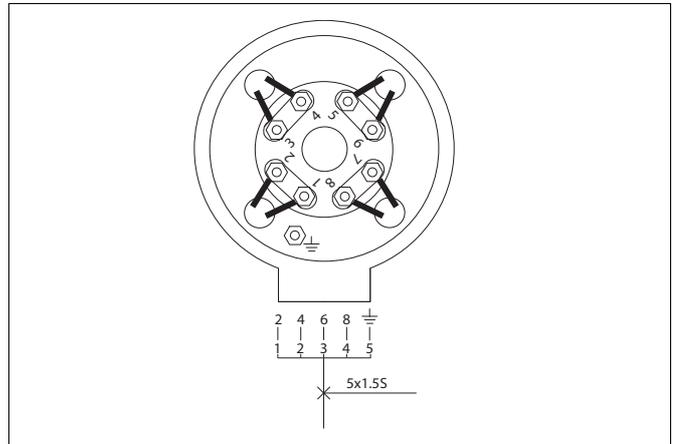

Fig. 8 Connection for step motor
- In login window (Fig.8) set the interface and baud-rate (COM1, 28800 Baud)